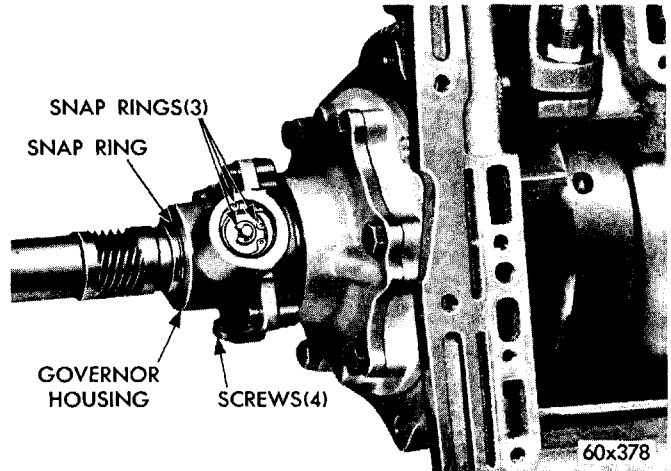
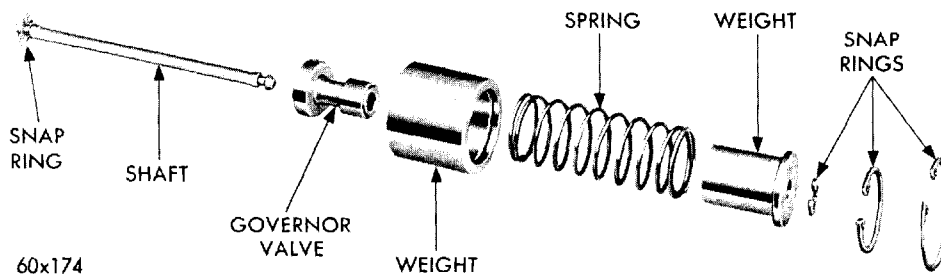

Fig. 25—Governor and Weight Snap Rings
Fig. 26—Governor Valve, Weights, Spring and Shaft (Exploded View)
(1) Remove the extension housing. See Paragraph 21.
(2) Using a screw driver, carefully pry the snap ring from the weight end of governor valve shaft (Fig. 25). Slide the valve and shaft assembly out of governor housing.
(3) Remove large snap ring from weight end of governor housing, lift out governor weight assembly.
(4) Remove snap ring from inside governor weight, remove inner weight and spring from the outer weight. Figure 26 shows an exploded view of the governor assembly.
(5) Remove the snap ring from behind the governor housing, then slide the governor housing and support assembly off the output shaft. If necessary, remove four screws and separate governor housing from the support.